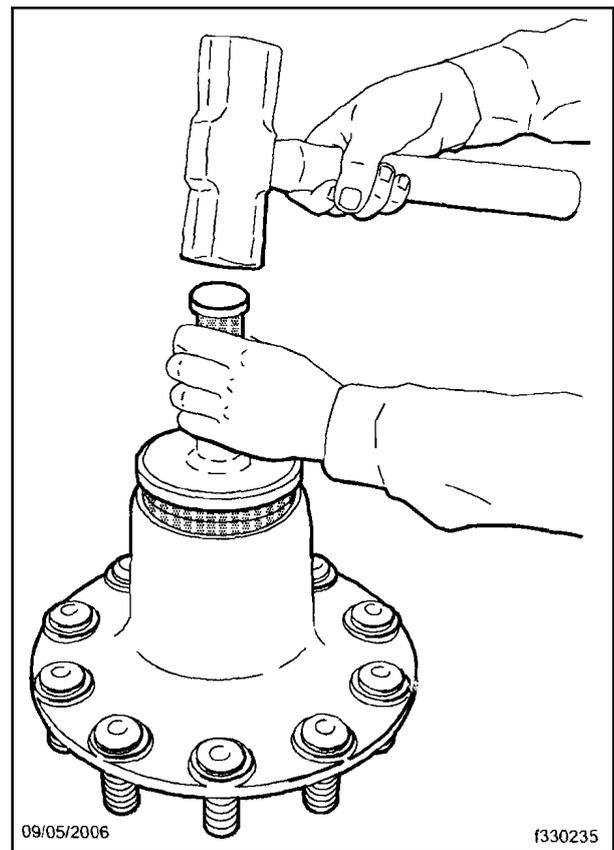

Fig. 4, Striking the Tool
- 14.3 Hold the tool handle firmly, and strike it until the sound of the impact changes as the seal bottoms out. See Fig. 4. Hold the tool firmly to avoid bounce or unseating of the seal from the adapter.